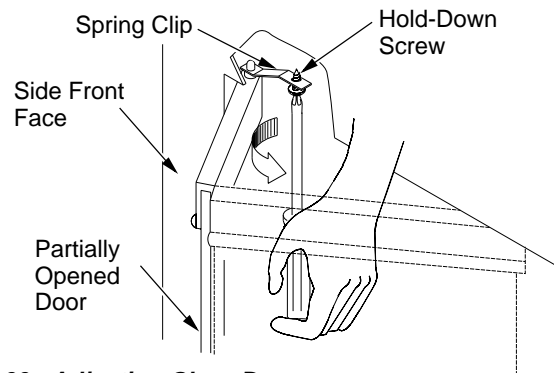

Figure 33 - Adjusting Glass Doors
7. To adjust the doors, slide them partially open. Using a screwdriver, loosen the hold-down screws in the spring clip (see Figure 33) and pivot plate.